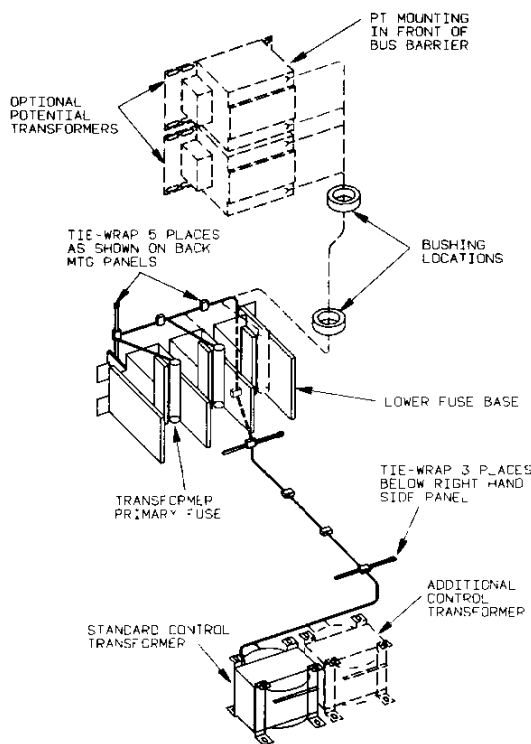

FIGURE 18
6. Ensure that the transformer primary leads are routed as shown in Figure 18.